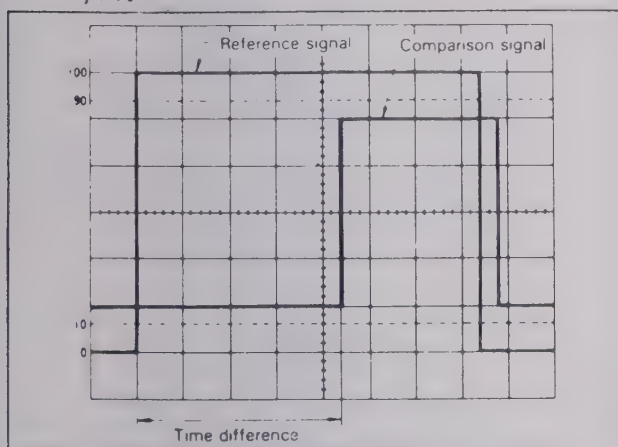

Fig. 17. Time Difference Measurement.
(Refer to Fig. 17)
1. Apply the two signals to the **CH 1 (X)** and **CH 2 (Y)** input jacks and select the dual-trace display mode.
3. Use the $\blacktriangle$ **POS** controls to superimpose both waveforms to intersect the center horizontal graduation line as shown in Fig. 17. Use the $\blacktriangleleft$ **POS** control to set the reference signal coincident with one of the vertical graduation lines.
For the example shown in Fig. 17, the horizontal distance measured is 4.4 divisions. If the **TIME/DIV** is 0.2 ms and **X10 MAG** is not used, the time difference is calculated as follows: